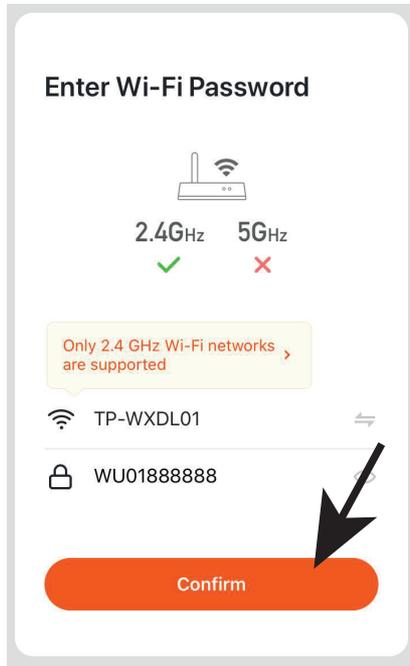

Fig 11
4. Enter your Wi-Fi name and password (Fig 11)